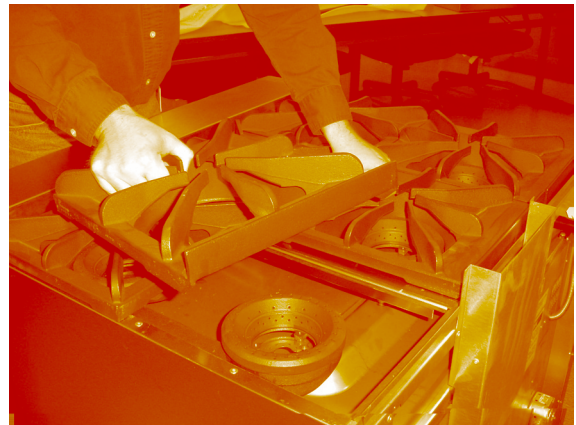

Fig. 2
2. Remove the entire back row of burner grates from the range top (Fig. 2).